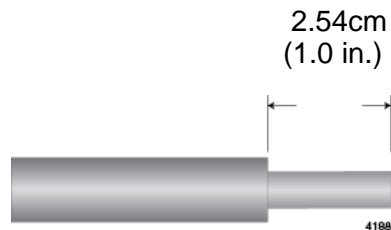

Figure 30. Stripping the Grounding Wire
1. Strip 2.54cm (1.0 in.) of insulation from the end of the solid grounding wire with a wire insulator stripper. Refer to Figure 30.